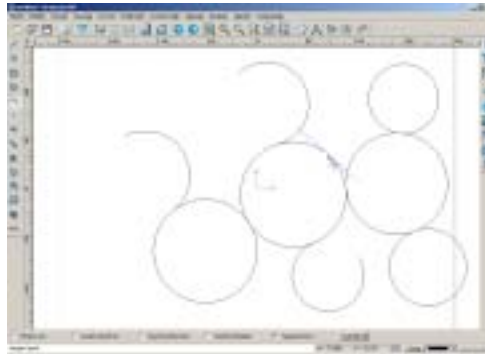

Fig. 4-6
3. The cursor becomes a pen. Drag the pen to the circle, and a blue line appears. (Fig. 4-6)